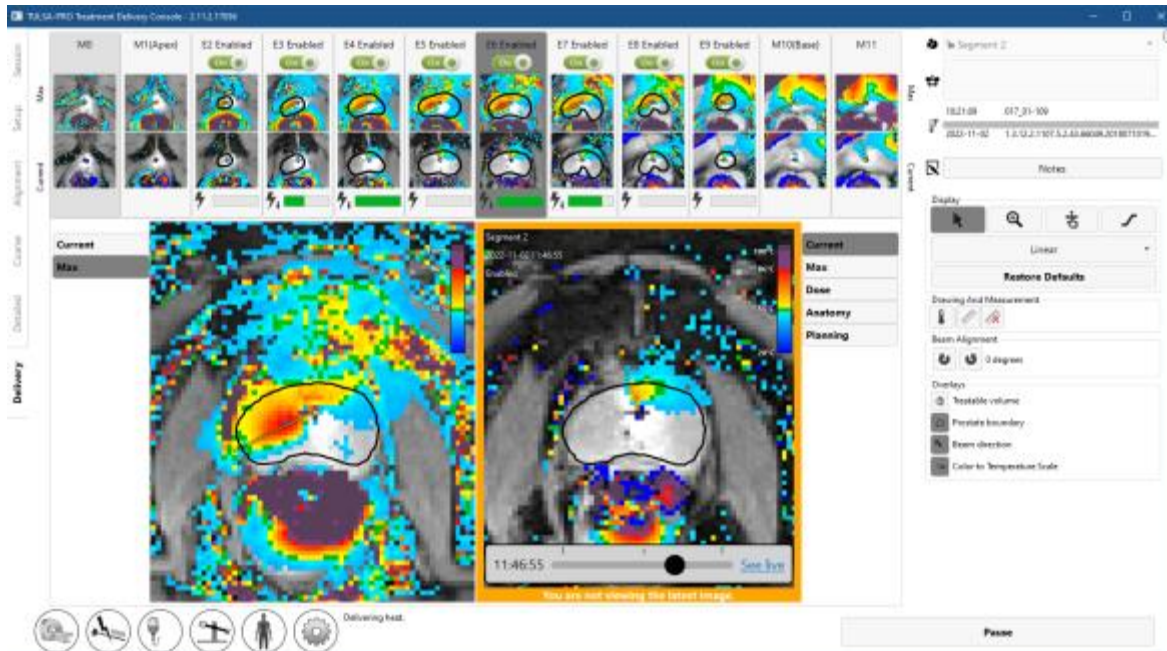

Figure 54: “You are not viewing the latest image” message below history slider
**NOTE:** When viewing images from previous timepoints, a frame around the right viewport shows that the latest images are not being viewed (*Figure 54*). A dashed line shows where the beam angle was at the previous timepoint. To return to the current timepoint, click **See live** or drag the History Slider until the framed message disappears.